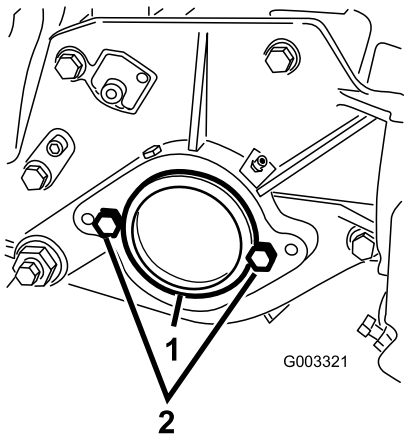

Figure 7
3. On right end of cutting unit, remove the plastic plug from the bearing housing (Figure 7).
4. Remove the 2 cap screws from the right side plate (Figure 7).
1. Plastic plug                      2. Cap screw (2)
6. Loosely install the 2 reel motor mounting cap screws to the left side plate of the cutting unit (Figure 7).